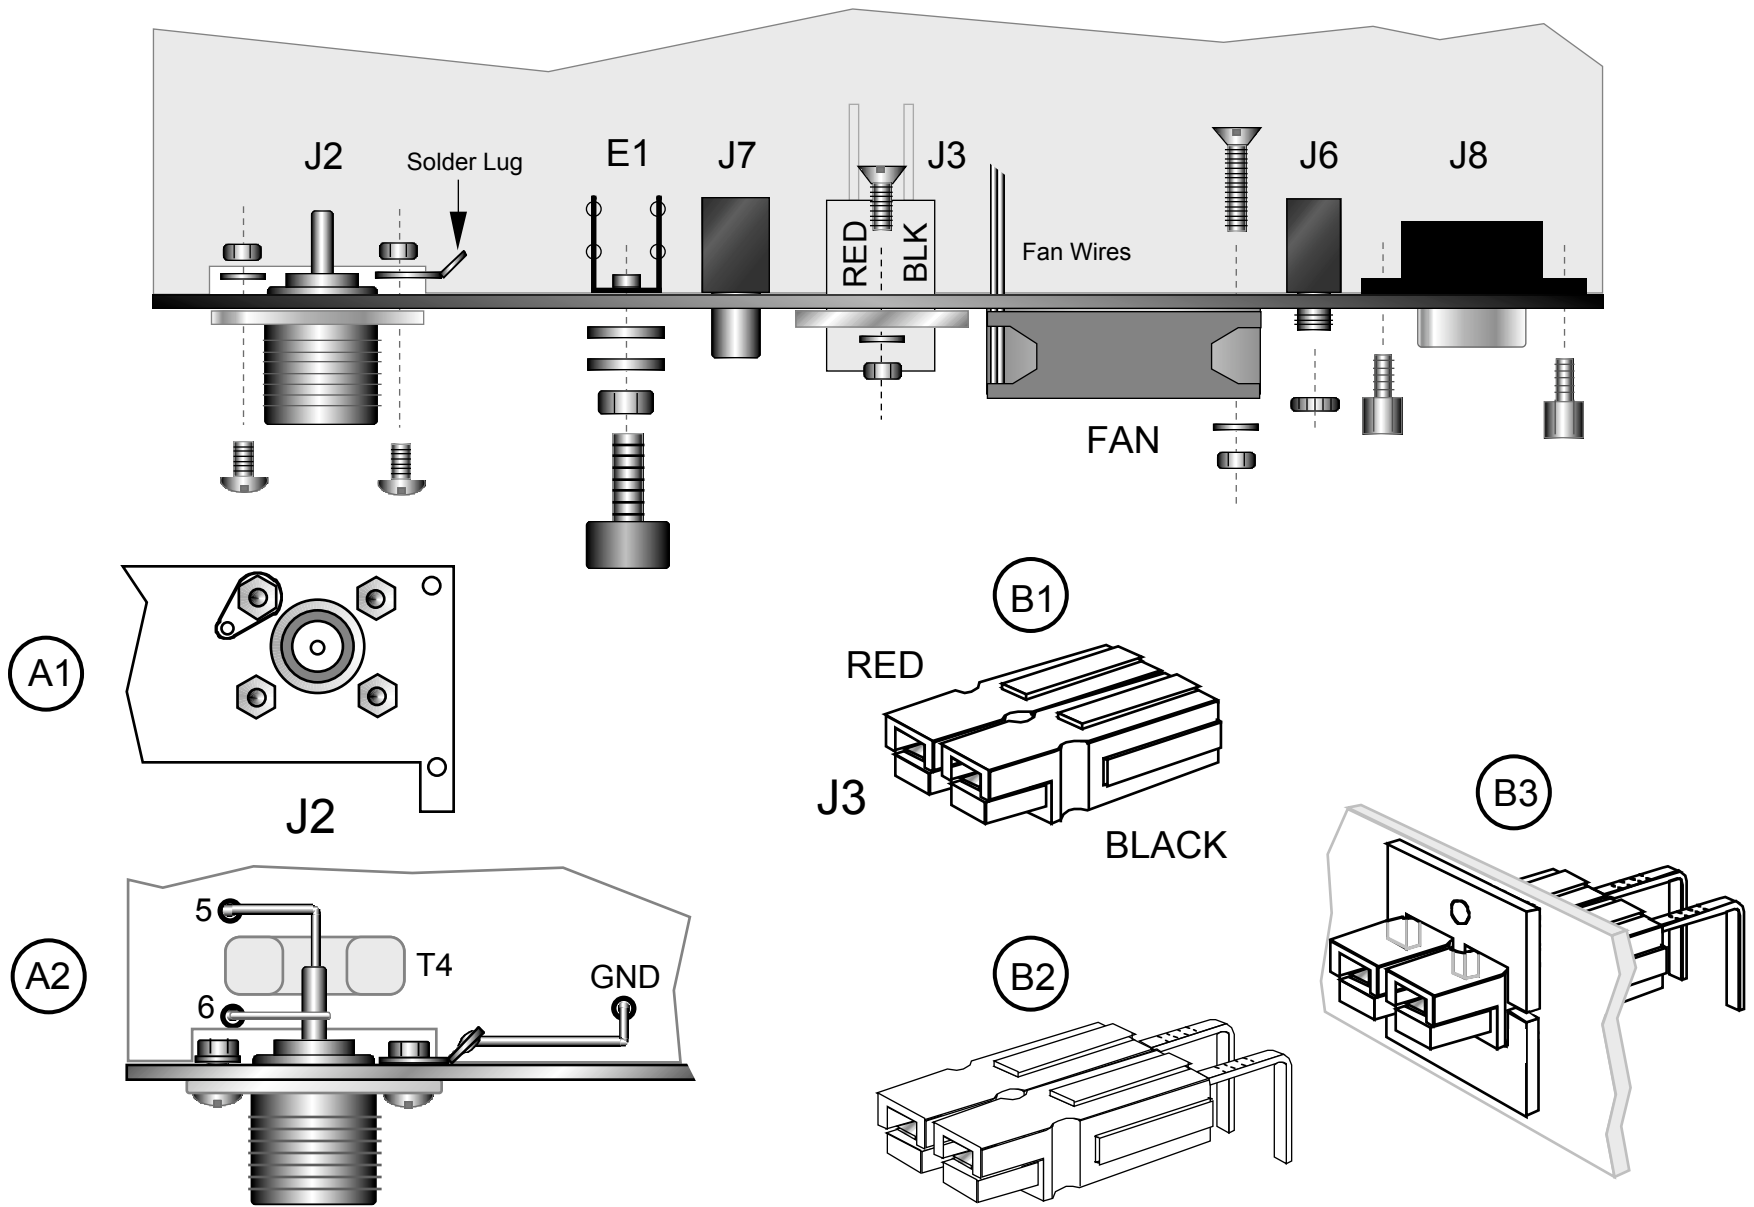

Figure 22
Figure 22 (page 29) shows the connectors and other hardware that will be attached to the rear panel in the following steps. The antenna jack (J2), DC power jack (J3), and fan will be secured to the panel first, then the rear panel assembly will be attached to the KPA100 PC board.
Place the antenna jack, J2 (SO239) in its position on the rear panel as shown in Figure 22. **The connector's square flange goes on the outside of the panel (the side with the labeling), not the inside.**
Attach J2 to the rear panel as shown in Figure 22. Use four 4-40 x 1/4" (6.4 mm) pan head screws, one solder lug, **three** #4 split lock washers, and four 4-40 nuts. As shown in Detail A1, the solder lug takes the place of one lock washer. The lug must be installed on the screw nearest the top edge of the rear panel. **Do not overtighten the hardware.**
Locate two DC input connector housings, one red and one black. Hold the two connectors in the orientation shown in Detail B1 of Figure 22. Look closely at the sides of the connectors. Each has a small tongue on the right side, and a groove on the left.
Use two E-shaped brackets to hold the housings in place, as shown in Detail B3 (one from above, one from below). Secure the brackets to the rear panel using two 4-40 x 1/4" (6.4 mm) flat head screws, two #4 split lock washers, and two 4-40 nuts. This hardware is shown in Figure 22 (at top).
Solder one end of the **red** wire to the center pin of the antenna connector (J2) as shown in Figure 22, Detail A2. Remove any excess solder from the outside of the pin using desoldering braid.
- Solder J2's wires to the points indicated in Detail A2 of Figure 22. The red wire goes to T4 pin 5, black wire to the pad labeled "GND" near E1, and bare wire jumper to T4 pin 6.